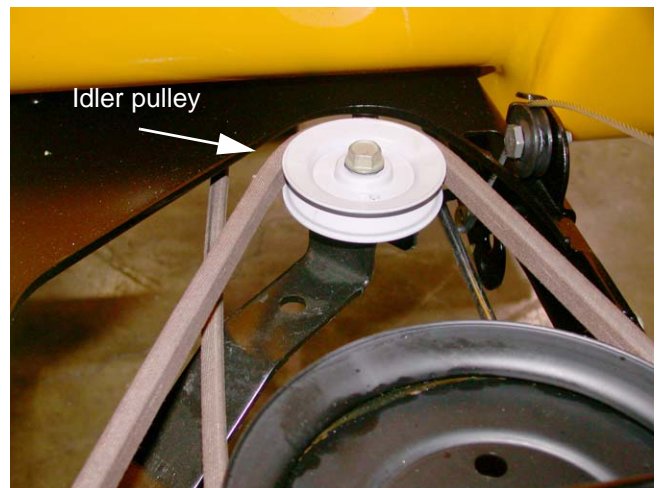

Figure 21.3
- 21.3. Take tension off of the transmission belt idler and remove the belt from around the idler pulley. See Figure 21.3.